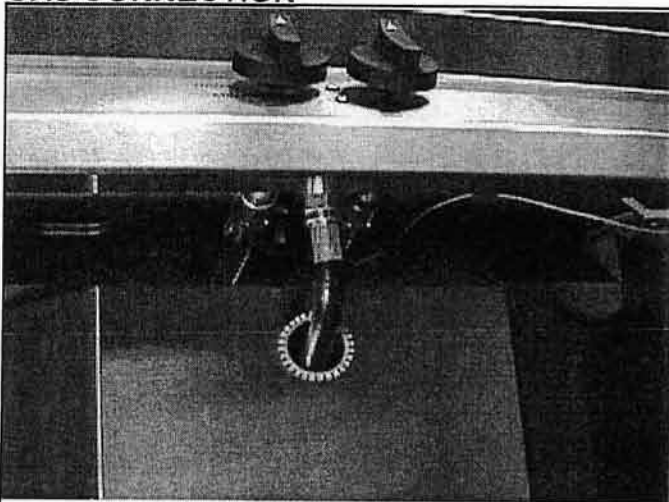

Figure 9 - Routing gas hose on pedestal cart
- 1) From rear of pedestal, insert hose through hole in front panel. Verify the hole has edge protecting material in place (**Figure 9**). *Warning: Do not insert hose through hole unless edge material is in place to protect hose from being cut by stainless steel.*